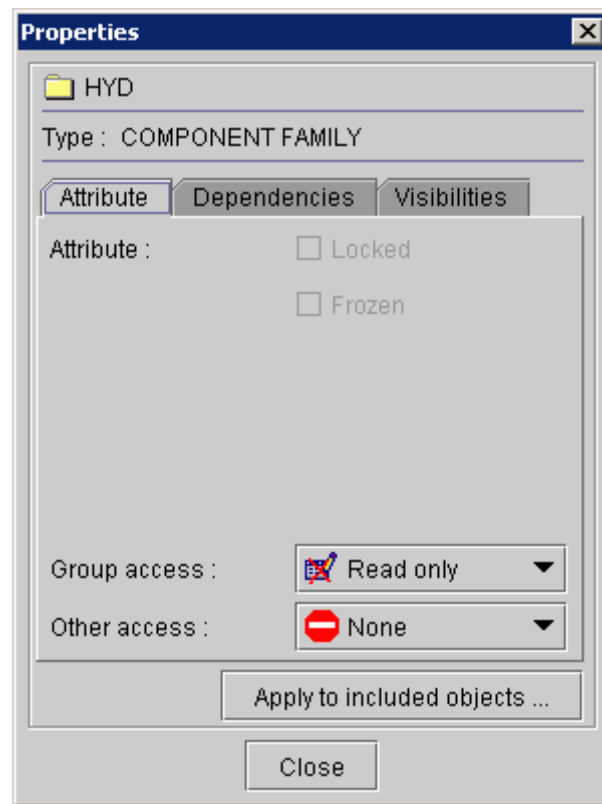

Figure 130 : Apply change to included Objects
- If you edit a Project or a Family of Models, you can specify if the rights must be applied to all included elements by clicking on Apply to included objects (Figure 130).